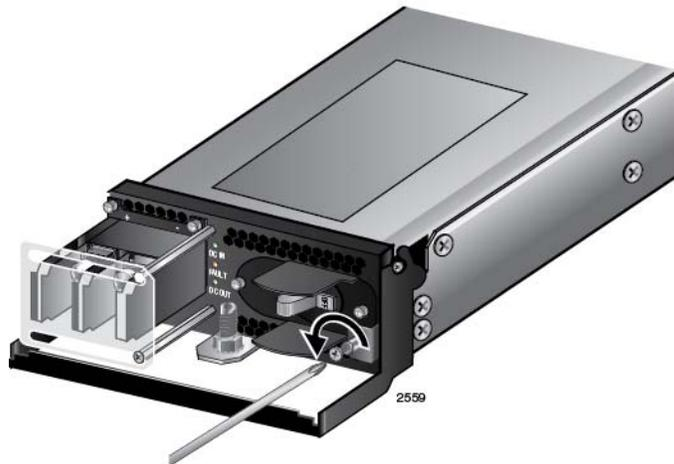

Figure 60. Loosening the Handle locking Screw on the AT-SBxPWRSYS1 DC System Power Supply
5. With a #2 Phillips-head screwdriver, loosen the handle locking screw on the power supply, as shown in Figure 60.